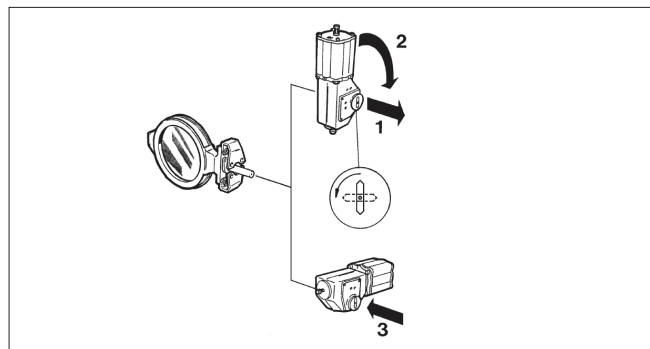

Fig. 20 Changing the mounting position
- Detach the actuator using a suitable extractor. The correct tool can be ordered from the manufacturer (see Fig. 20).